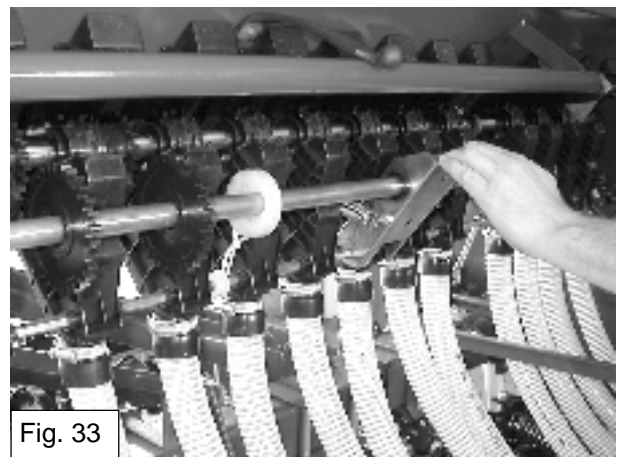

Fig. 33
- Pull the countershaft back and slide the gearwheels to the new position (fig. 33).